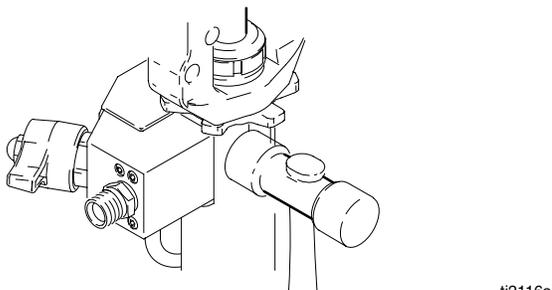

Fig. 11
4. Fig. 11. Loosen locknut by hitting firmly with a plastic hammer. Unscrew pump.